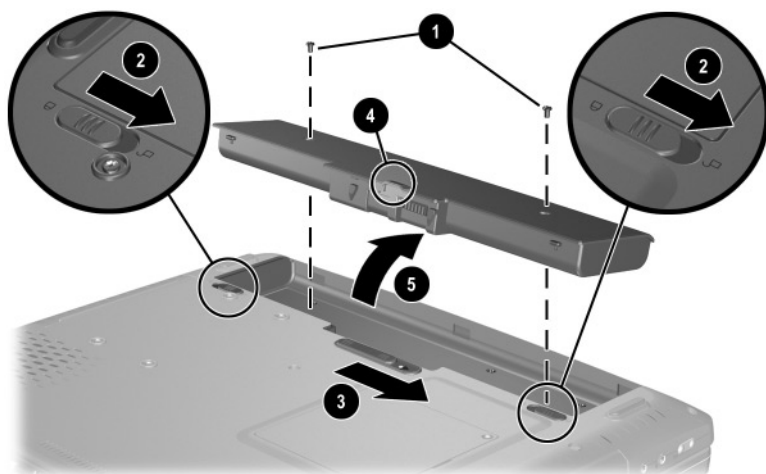

Figure 5-3. Removing the Battery Bay Space Saver
- b. Remove the two TM2.5 × 7.0 screws ❶ that secure the battery bay space saver to the notebook (Figure 5-3).
- c. Slide the battery pack lock latches ❷ to the right.
- d. Slide and hold the battery pack release latch ❸ to the right.
- e. Use the notch ❹ in the battery bay space saver to swing the front edge of the space saver up and back ❺.